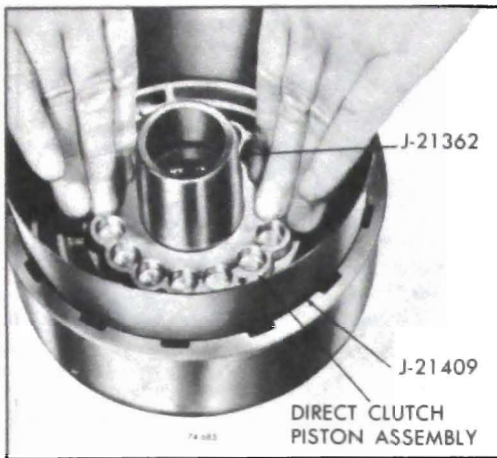

Figure 76-686
4. Place Seal Protectors, Tools J-21362 - Inner, J-21409 - Outer, over hub and clutch housing and install clutch piston. See Figure 76-686.